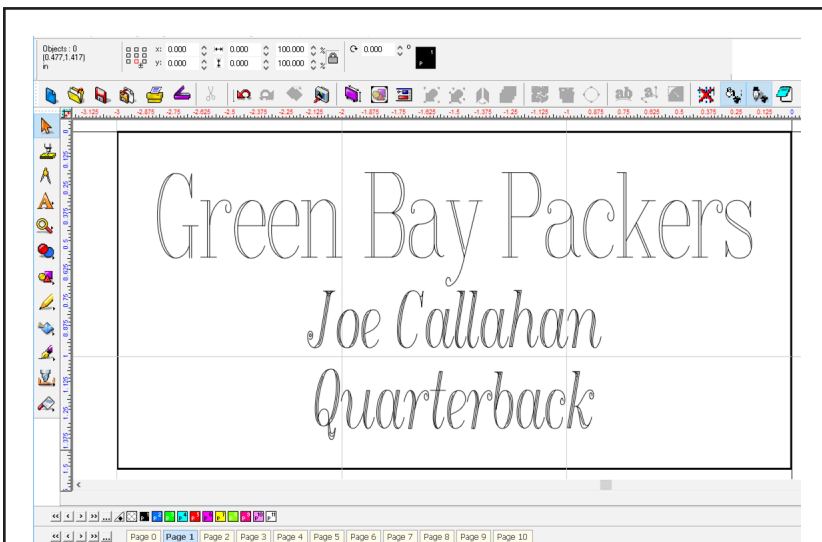

Fig. 72 - After badges have been created, the view will return to the workspace, where text substitution for each badge has been completed.
18. When the badges have been completed, the workspace will display the first badge in the series (Fig. 72).